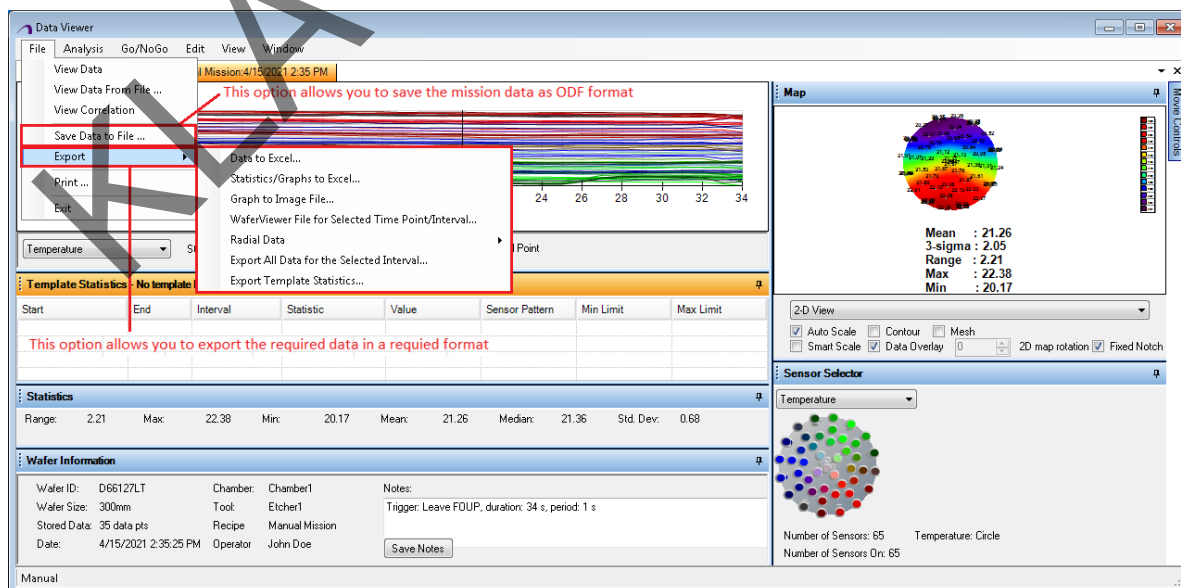

Figure 5-27 Save or Export Raw data
1. Click **File** from Data Viewer menu bar and select the required option, as shown in Figure 5-27.